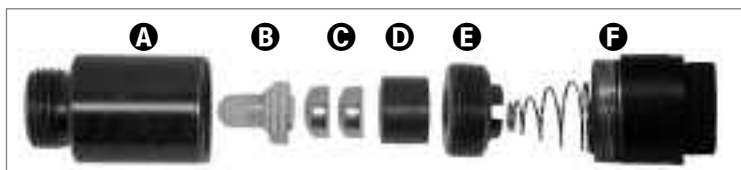

Fig. 13b: Reticle LED assembly: (A) Reticle Container; (B) LED; (C) Batteries; (D) Battery Holder; (E) Threaded Lid; (F) Cap.
13. **Remove Plastic Strip from Reticle LED:** The polar alignment reticle LED (30, **Fig. 1d**) contains two watch batteries. The reticle's LED is shipped with a plastic strip between the two batteries to protect battery life. Unthread both the cap (F) and the threaded lid (E). Remove the plastic strip before using. Refer to the reticle assembly in **Fig. 13b** and note the orientation of the batteries. Place the batteries (C) into the battery holder (D) before inserting into the reticle container (A).